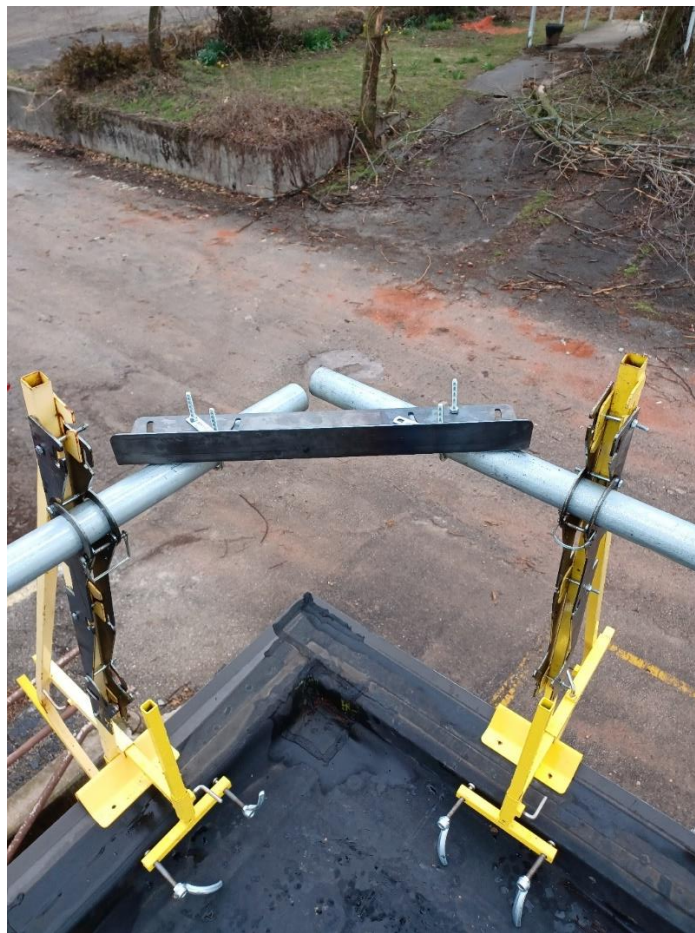

Figure 3
10. When reaching a corner, follow the same instructions as above for ending the runs of rail. Loosen the U-bolts and slide the corner brackets over the end of the rails, ensuring that the bent lip is facing the inside of the roof perimeter. Lightly tighten the U-bolts until the bracket cannot slide off the rail but can still rotate. Place the intersecting rail into the vacant rail supports. Slide the rail through the second set of U-bolts until the gap between the intersecting rails is less than two inches. Tighten the U-bolts until the two intersecting rails are joined. **DO NOT OVERTIGHTEN**. Overtightening of the U-bolts will cause the corner bracket to deform and potentially fail. Perform the same installation on both the top and mid rails. Continue installing FallBan down the intersecting section of rail as mentioned above. *See Figure 3*